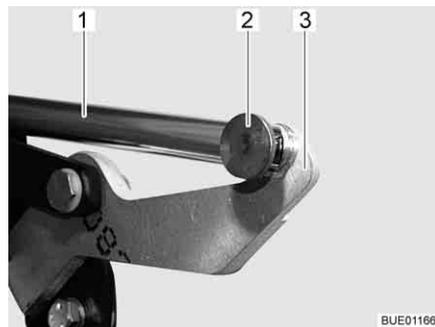

Fig. 82 Drive
- Remove the connection (e.g. splint and pin) (Fig. 82,2) between the push rod (Fig. 82,1) and lever (Fig. 82,3).